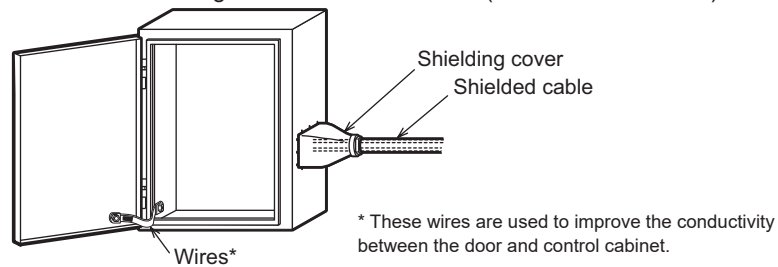
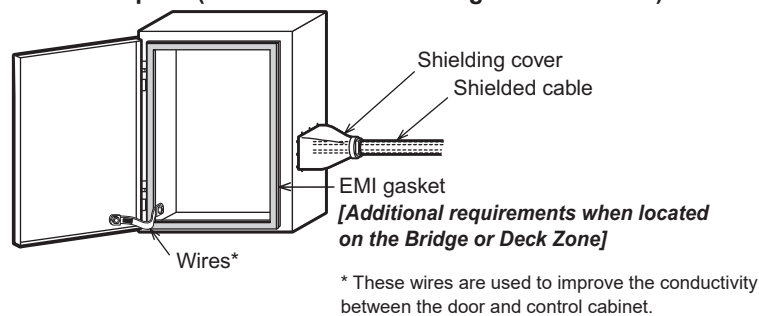

Fig.1. Control Cabinet Example 1 (Not located on the Bridge or Deck Zone)
Fig.2. Control Cabinet Example 2 (Located on the Bridge or Deck Zone)
- c)To ensure that there is electric contact between the control cabinet and its door, connect the cabinet and its doors with thick wires. (See Fig. 1 and Fig. 2.)
Also, wrap the cable holes with a shielding cover or other shielding devices. (See Fig. 1 and Fig. 2.)
- e)The gap between the control cabinet and its door must be small as possible by attaching some EMI gaskets between them. **[Additional requirements when located on the Bridge or Deck Zone]** Remove coating of the contact area of the control cabinet and its door, and attach the EMI gasket with conductive adhesive tape. (See Fig. 2.)